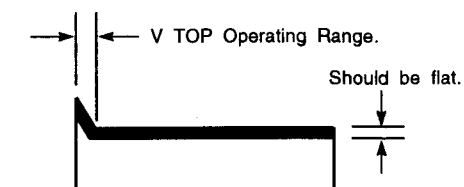

Fig. 5-1-38
- Adjust VR10 so that the shading portion level becomes flat level as shown in Fig. 5-1-38.
- Adjust VR6 so that the shading portion level becomes flat level as shown in Fig. 5-1-38.
- Adjust VR14 so that the shading portion level becomes flat level as shown in Fig. 5-1-38.